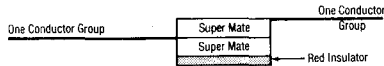

Fig. 17—Two Way Pluggable Connection
- a. This combination makes a two conductor group connection, pluggable two ways, body top or body bottom of the Super Mate Modules. See Figure 17.